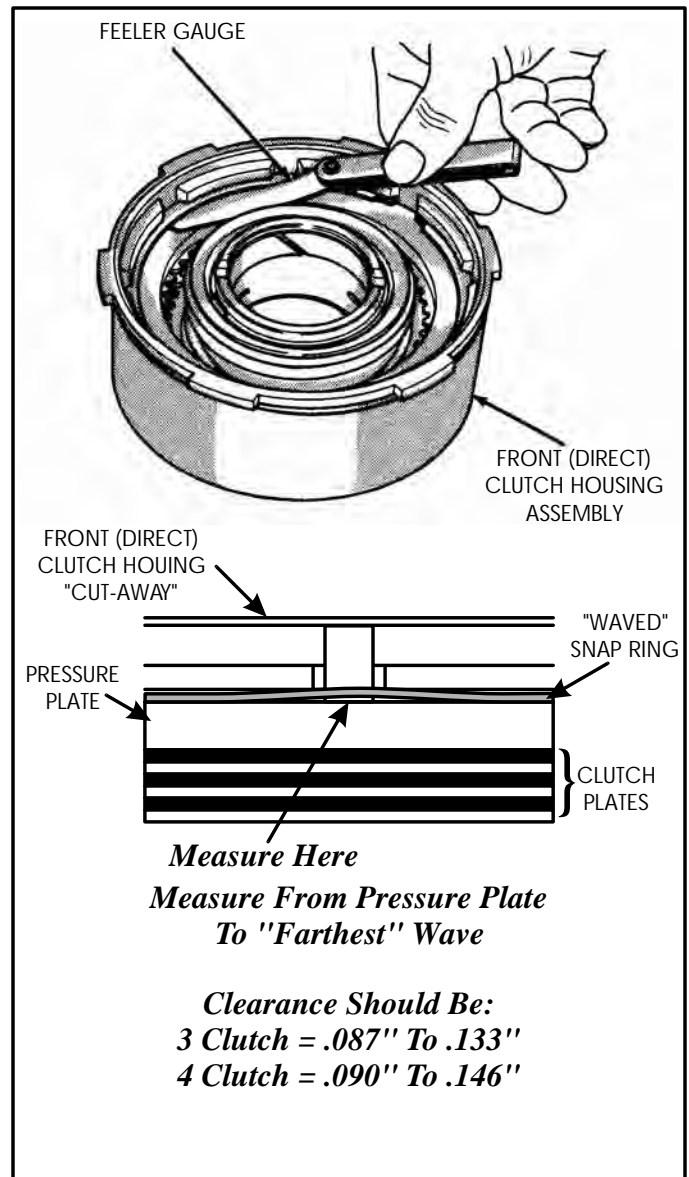

Figure 72
25. Check the piston travel by measuring with a feeler gauge, as shown in Figure 72.
**Note: Measure from pressure plate to "Farthest" Wave (See Figure 72).**